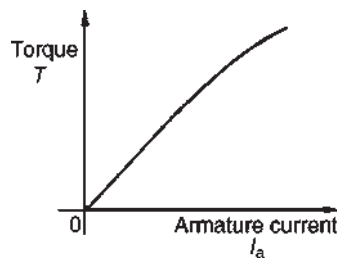

Figure 22.17
- (i) The theoretical torque/armature current characteristic can be derived from the expression $T \propto \Phi I_a$, (see Section 22.11). For a shunt-wound motor, the field winding is connected in parallel with the armature circuit and thus the applied voltage gives a constant field current, i.e. a shunt-wound motor is a constant flux machine. Since Φ is constant, it follows that $T \propto I_a$, and the characteristic is as shown in Fig. 22.17.